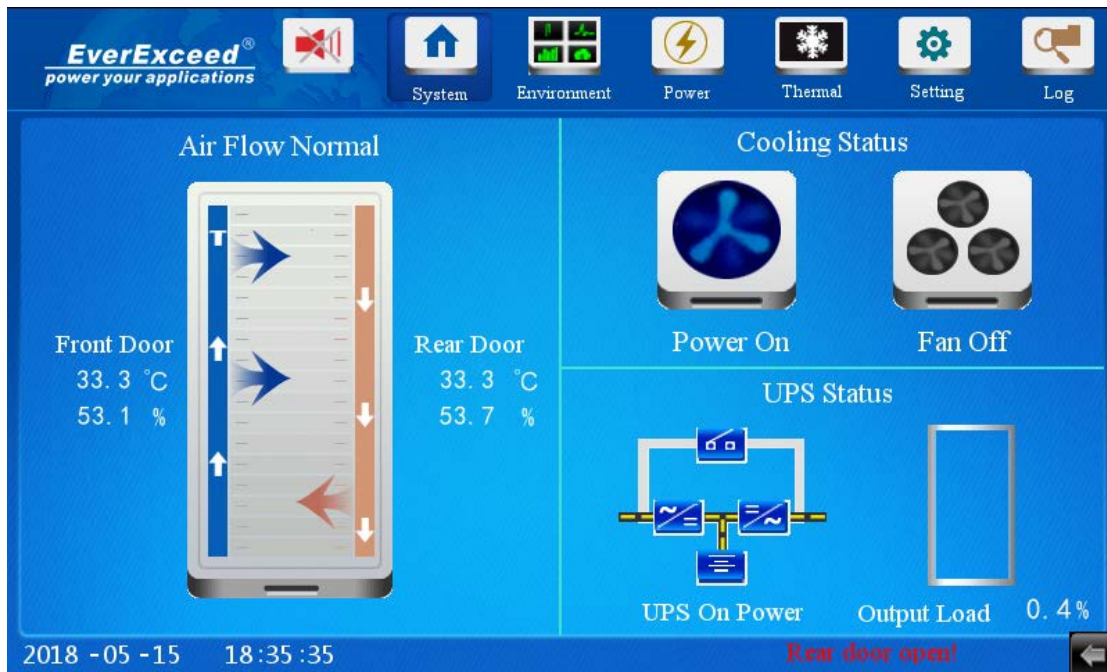

Figure 4-3 Menu
5. After the UPS is powered on, it enters self-test state (including battery self-test), all LED indicators blink and the beeper beeps discontinuously. After the self-test, the UPS will enter the standby mode, and the MAINS indicator will turn on, as shown in Figure 4-3 (a). Press the ON/SILENCE key for above 1s, and wait for about 30s, the UPS will switch to inverter standby mode, and the INVERTER indicator will blink. When the UPS has output, the INVERTER indicator will turn on.
On the display screen, click the System menu at the upper part, the system page will appear, displaying air flow status, cabinet cold aisle temperature, hot aisle temperature, AC status and UPS status, as shown in Figure 4-3.